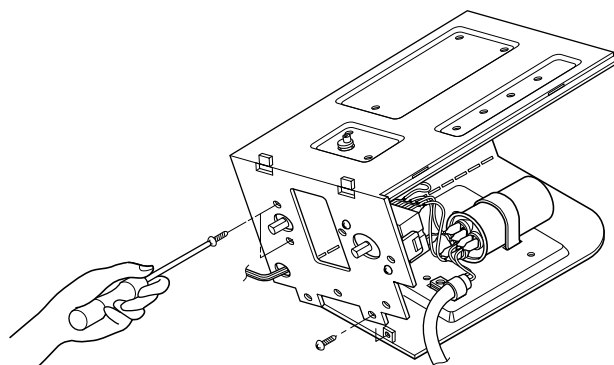

Figure 29
5. Remove the thermostat. (See Fig. 29)